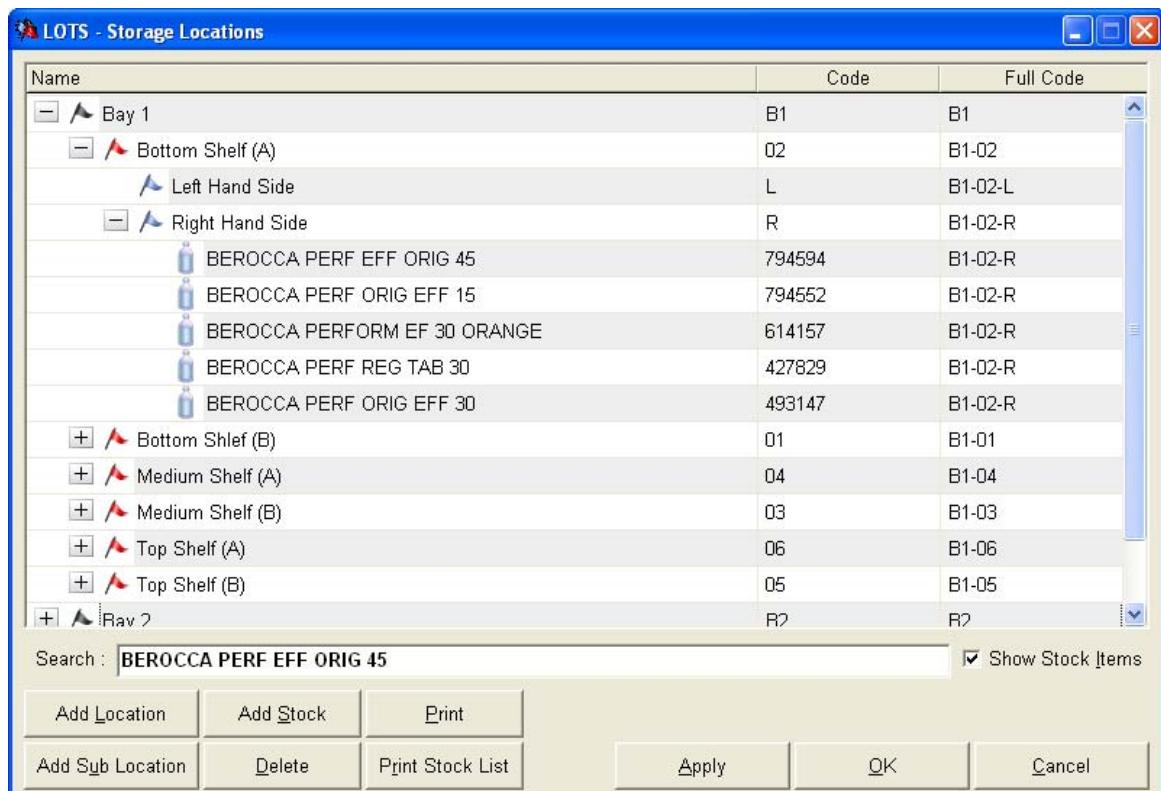

Figure 180
2. This will display the 'Storage Locations' window (as shown in Figure 180).
5. You will also need to add in a code for the location. The codes refer to how the location will be displayed in dispense, for example, or printed on dispense labels. For this reason its best to keep the codes as short as possible like the example above. The 'Full Code' field is automatically generated. The Full Code field lists the codes of each level separated by a dash (see Figure 180).